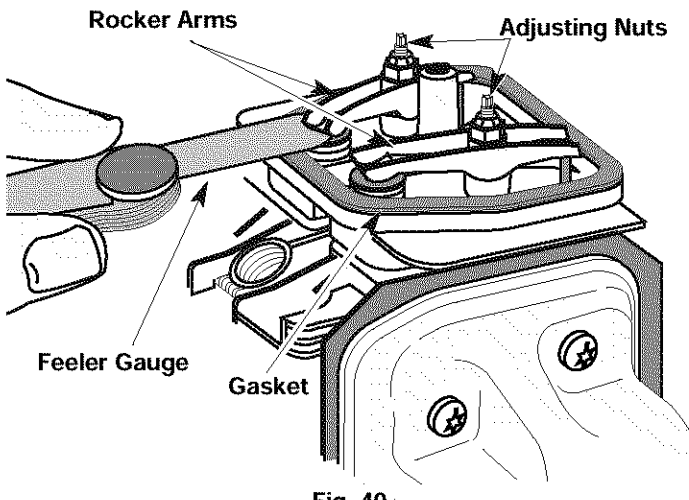

Fig. 40
- Slide the feeler gauge between the rocker arm and the valve return spring. Measure the clearance between the valve stem and rocker arm (Fig. 40). Do both intake and exhaust valves.